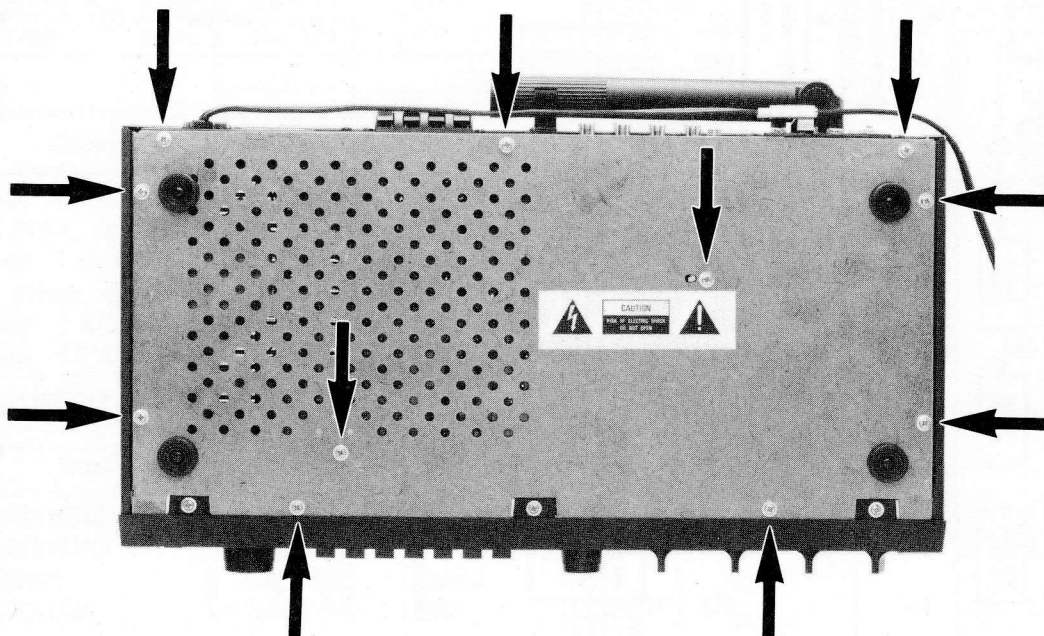

Figure 3-3
- a. Turn the Receiver upside down and remove eleven screws from the bottom (Figure 3-3).